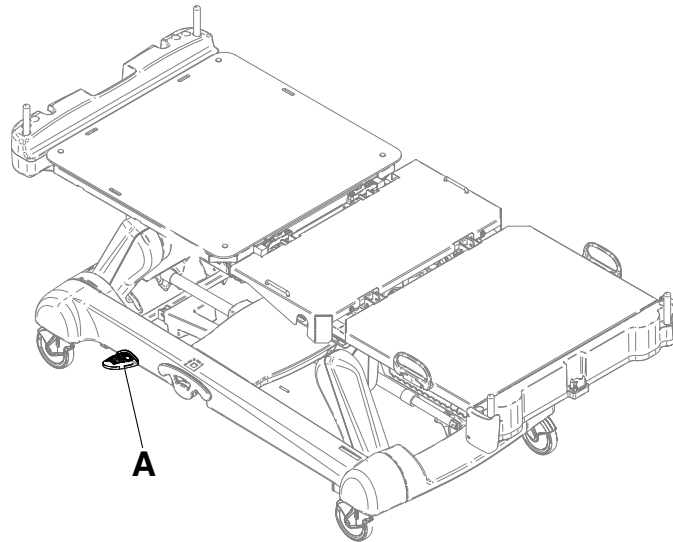

Figure 10 – CPR release pedal
Two instant CPR release pedals are located at the head end section on both the left and right sides of the litter (A) (Figure 10).